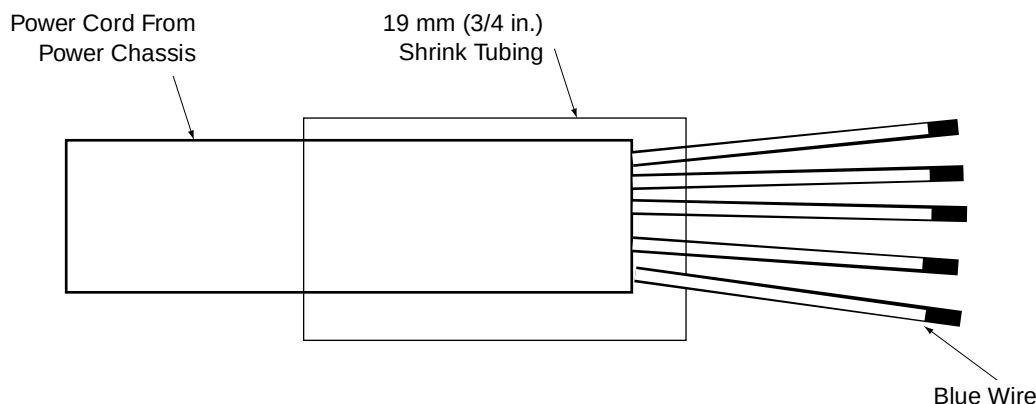

Figure 4-19. Insulating Blue Wire in Power Cord (380-415 VAC)
4. Remove and discard the 7 mm (1/4-inch) shrink tubing from the end of the blue wire in the power cord (see Figure 4-19 on page 92).
5. Place the 19 mm (3/4-inch) piece of shrink tubing from the accessory kit over the end of the power cord. Use a heat gun to apply the shrink tubing (see Figure 4-19).